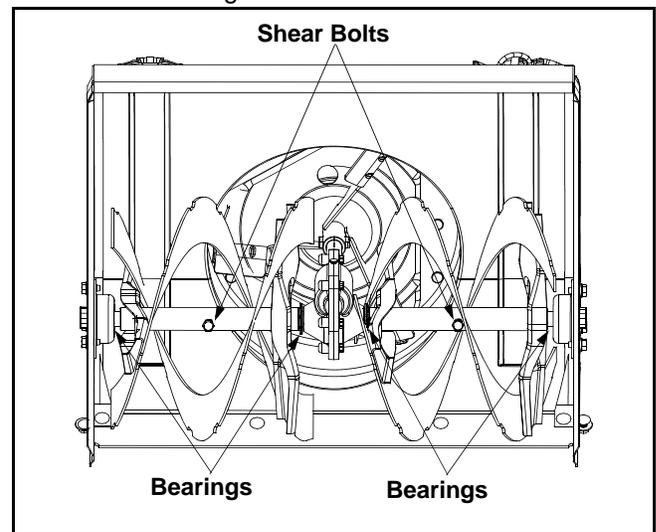

Figure 14
- Once a season, remove the shear bolts and oil or spray lubricant inside the shear bolt holes while rotating the augers by hand to lubricate the shaft. See Figure 14. Also lubricate the bushings at the ends of the augers.